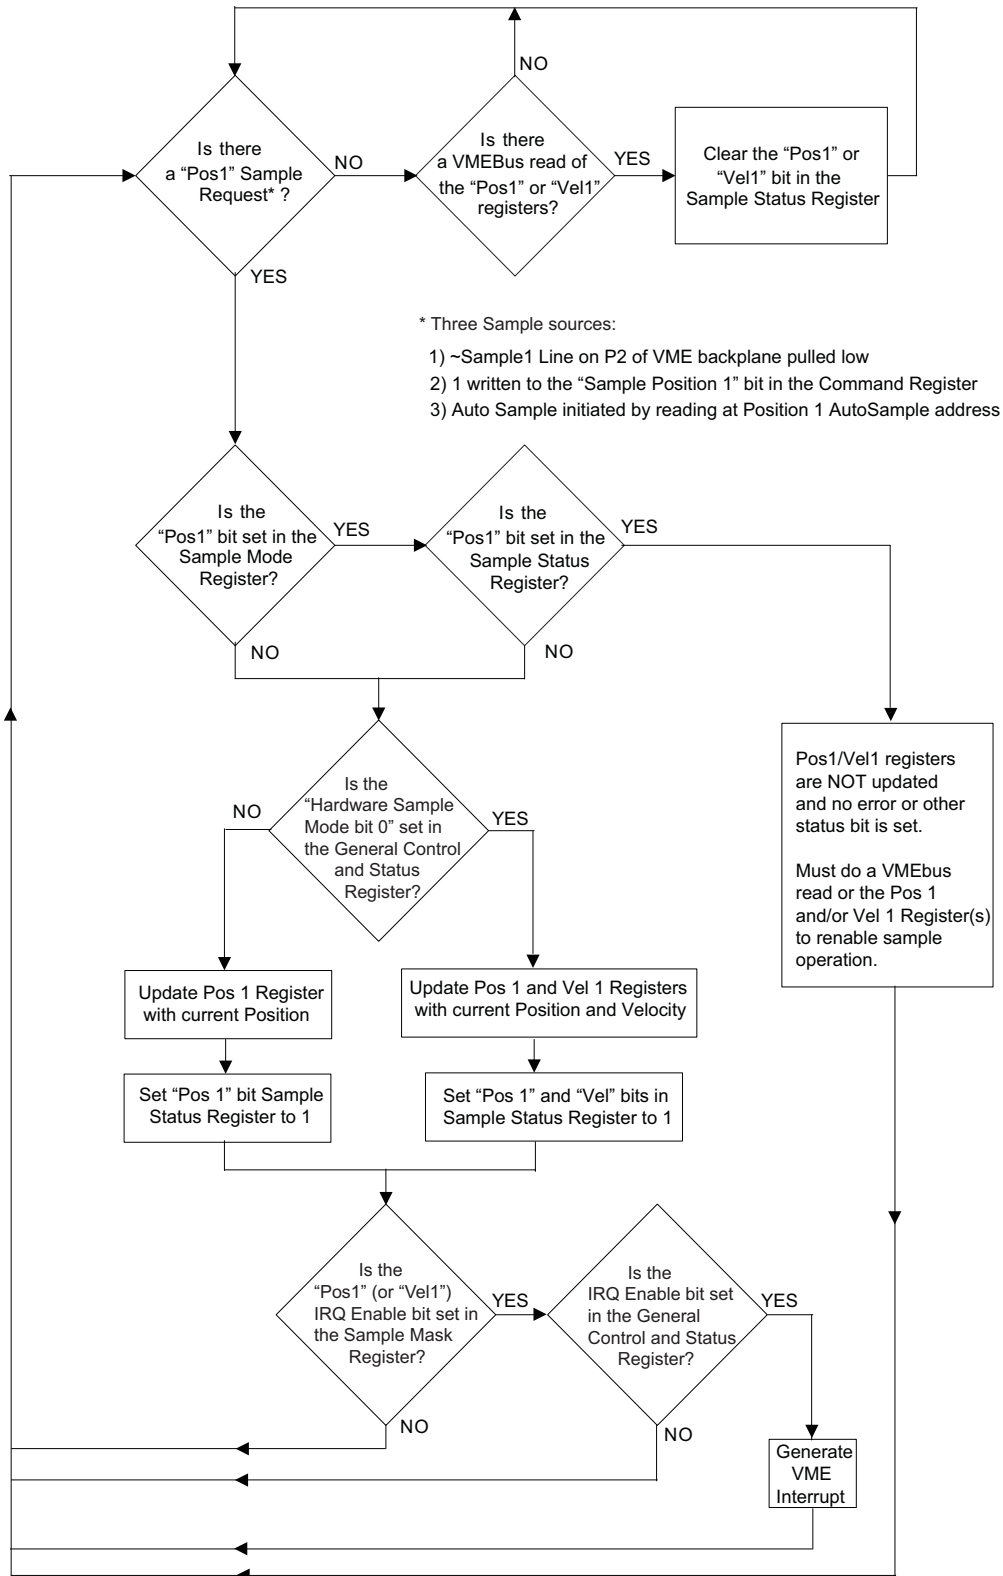

Figure 24 Flowchart of the Sample Mode and Mask Bits
- Avoid lost data points. Setting the corresponding Sample Mode Bit in the Sample Mode and Mask register will prevent a position or velocity register from being updated until after the sample has been read, even if a sample request has been sent multiple times. Figure 24 is a flowchart for the sample mode and mask bits.